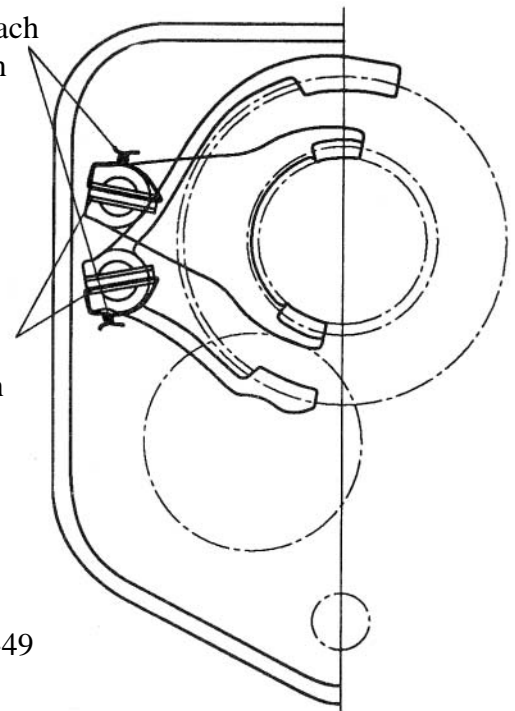

Fig.5-49
- Install spring (roll) pins so that their seams are positioned as illustrated in Fig.5-49
(2) Reassembly of sub-change gears (speed range shift)